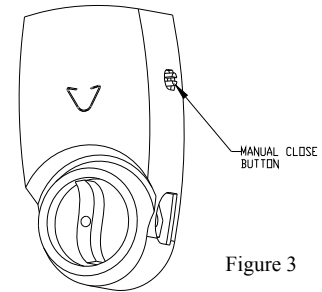

Figure 3
- Press the manual close button (see figure 3) at the annual battery change to ensure the valve functions properly.